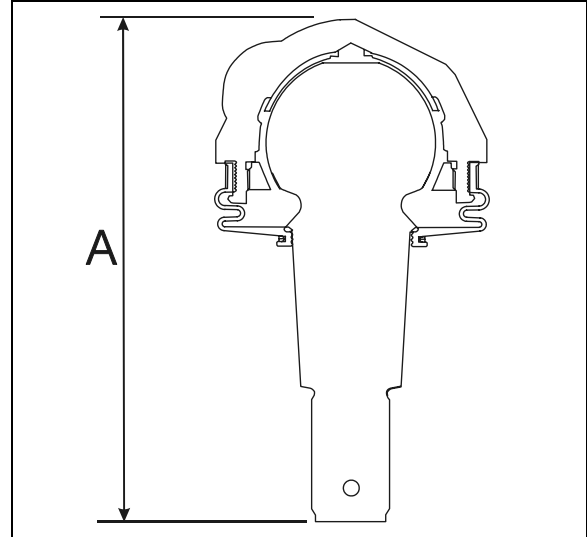

FIGURE 28: UPPER A-ARM CENTRAL BALL JOINT 16116
- Using a caliper, measure dimension A on figure 28.